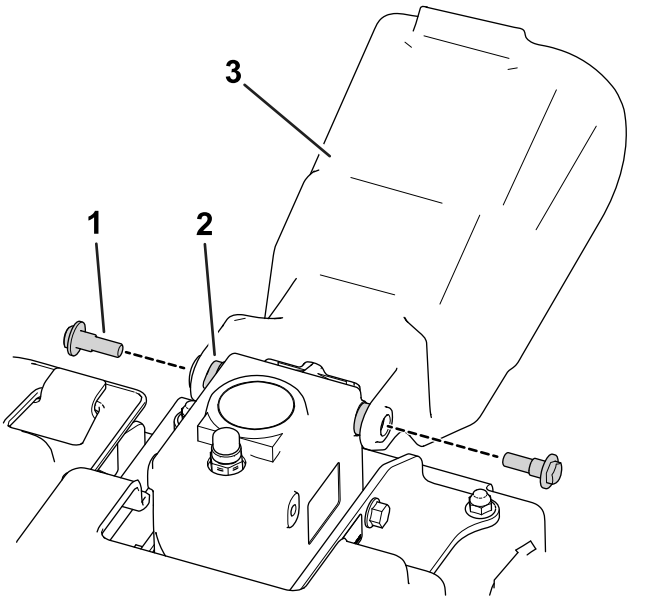

Figure 1
1. Remove the PTO cover connected to the front attachment (Figure 1).
9. Install the PTO cover to the front attachment (Figure 1).